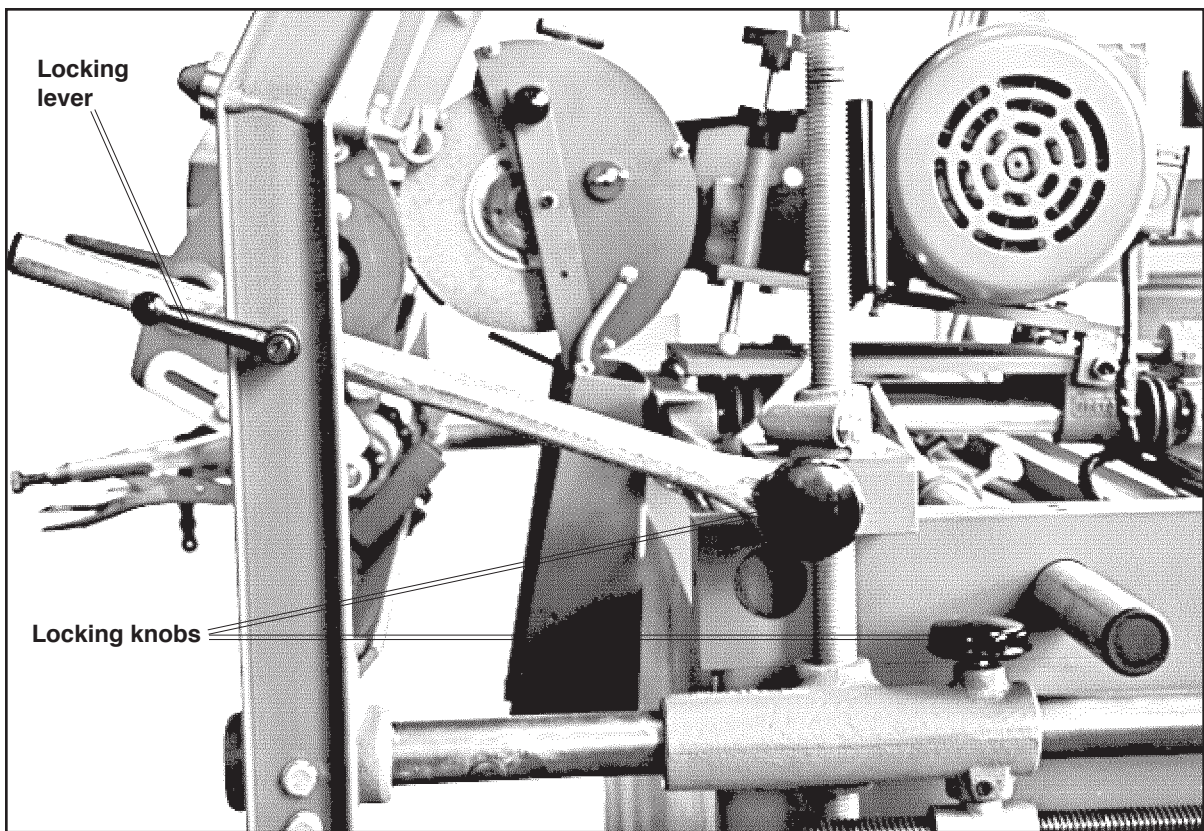

Figure 3.13 Reel frame locking knobs
3.5.6 Gently release the gauge rod. Make sure the reel frame locking knobs are loose (see figure 3.13) Adjust the mower support on that end until the gauge rod just touches the top of the reel's center shaft.
3.5.13 Tighten the locking knobs then the locking lever on the reel support frame as shown in Figure 3.13.